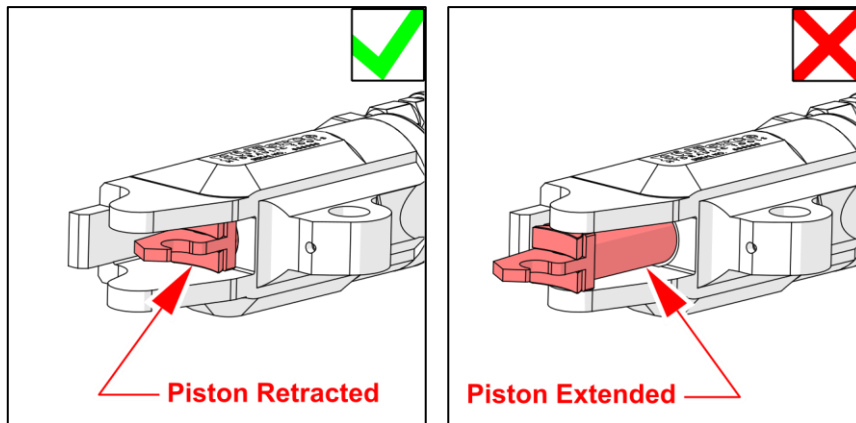

Figure 6.1: Correct Piston Position
- The torque wrench piston is fully retracted (see figure 6.1). An extended piston will make the ratchet head difficult or impossible to fit.